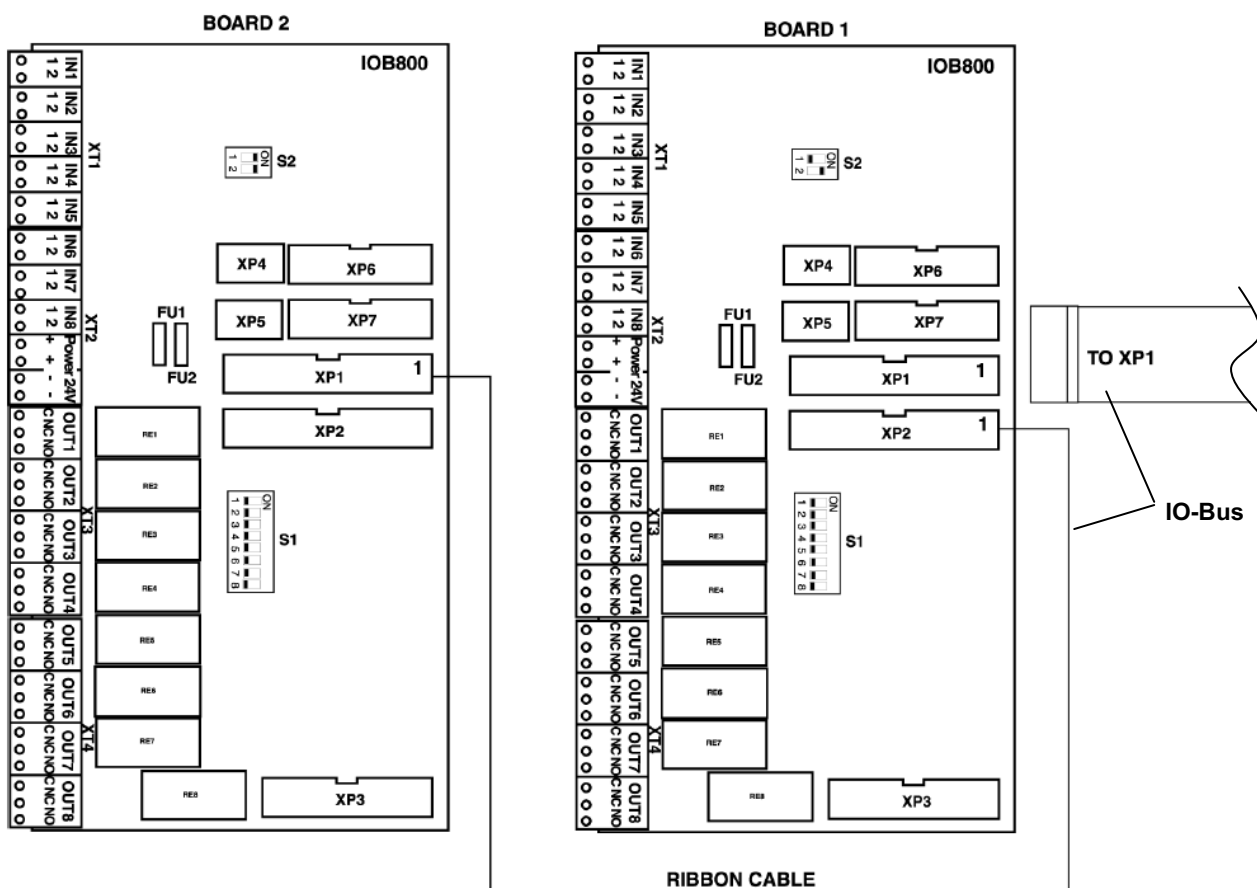

Fig. 31: IOB800 - Switch, terminal and connector positions.
- 5 Connect the supply cable to the XP4 position on the IOB800 board. Refer to Fig. 31.